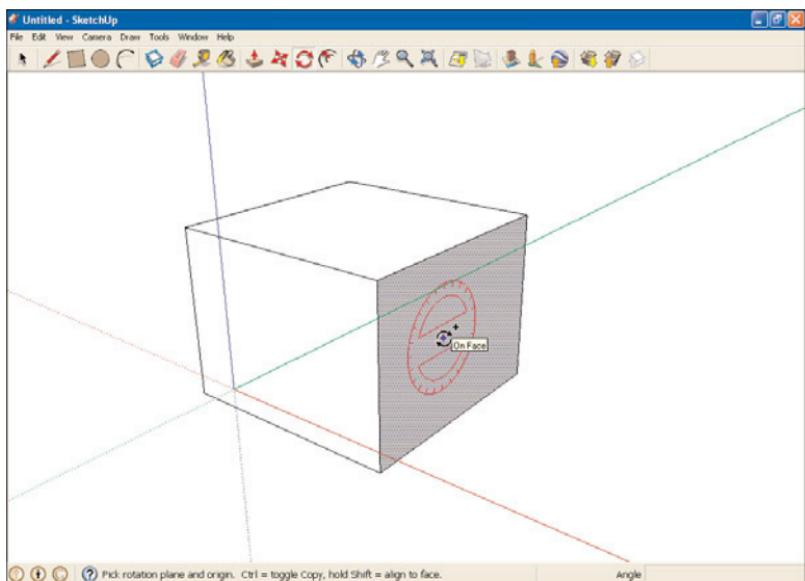

FIGURE 8.6 The rotation base aligns one way.
5. Move the rotation base around the various surfaces and planes in the drawing to confirm that the rotation base aligns with the underlying surface. You can see examples in Figures 8.6 and 8.7.